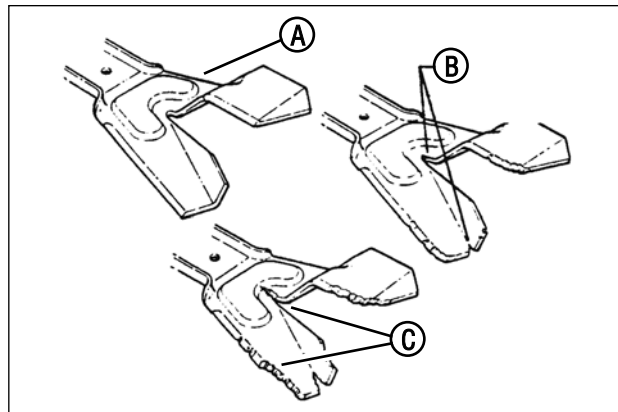

Figure 19: Ninja blade wear limits
1. Inspect the blade (Figure 19) frequently for signs of excessive wear or damage:
- (A) New blade
- (B) Wear limit (cracks or notches begin to appear on tip)
- (C) Dangerous condition! Do not use on the mower! Replace with a new blade.